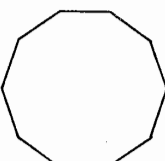

Fig. 52
45. A *Decagon* has ten sides. Fig. 52.